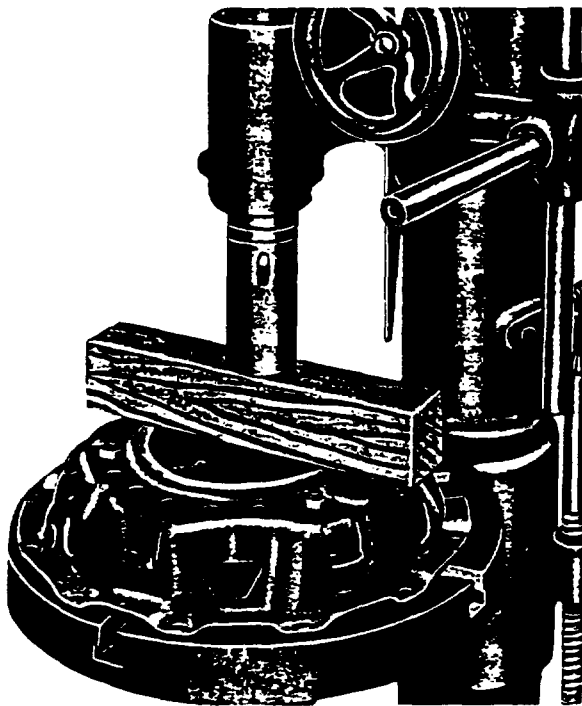

Figure 4-10. Compressing Clutch
3. Place a block of wood, such as a two by four, across cover plate in a position that does not interfere with tips of release levers, as shown in Figure 4-10. Compress clutch assembly slightly, removing lever adjusting screw locknuts.